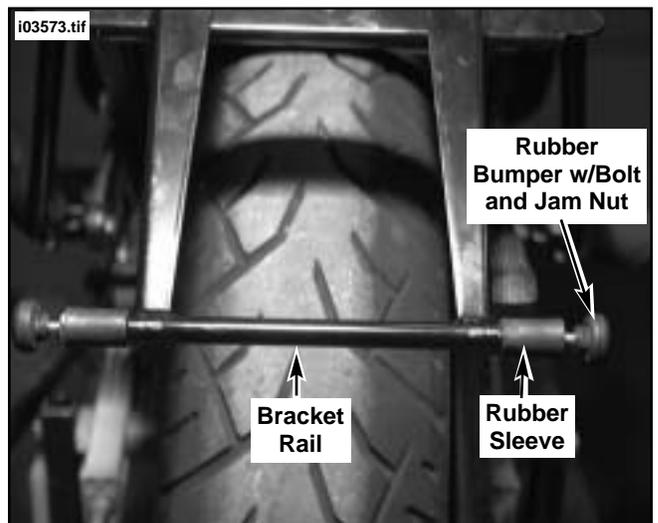

Figure 5. Install Rubber Sleeves and Bumpers
- 9. See Figure 5. Obtain the two Rubber Sleeves (Boots) (Part Number C3012.E) and two Saddlebag Bumpers (with Bolts Part Number C3011.EA) and Jam Nuts (Part Number DA0400.4CZ) from kit. Slide the sleeves onto the saddlebag bracket rail tips, then thread jam nut onto the bumper and install bumpers into each end of rail.